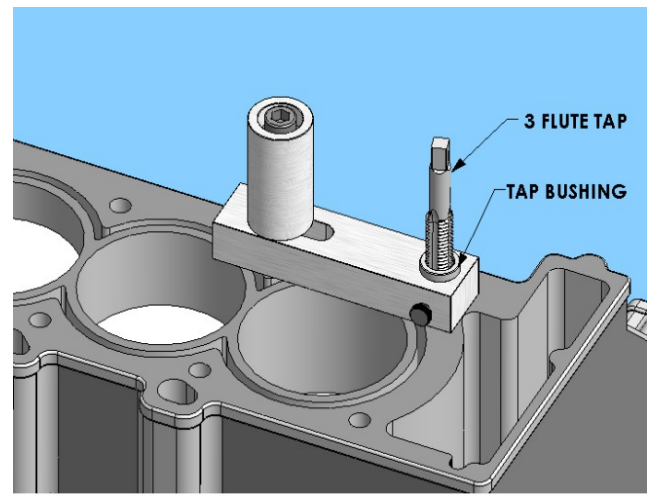

FIGURE 3A
5. **Figure 3A-** Loosen the thumb screw and replace the Drill Bushing with the Tap Bushing. Using the 5/8-11 three-flute Plug Tap, TAP MAGIC® and the proper tap wrench, thread the hole about 1½” deep. **NEVER use power tools or ratchet and socket to drive the taps! This will put unbalanced pressure on the tap causing it to break. Proper tap wrenches apply balanced pressure to the tap.** Then you can remove the jig. This will make it easier to clean out the chips when threading the remainder of the hole. You should back out the tap often and remove the chips created by the tap so that the tap will not jam them into the bottom of the hole. Failure to do so could cause the tap to break.